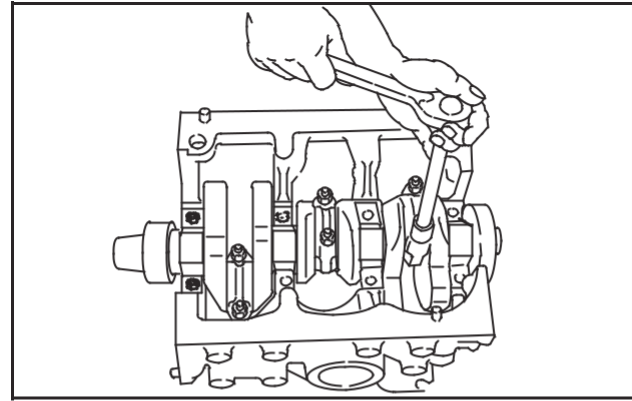

Fig. 5 – Removing Connecting Rod Assembly
8. Remove connecting rod and piston assemblies, Fig. 5.